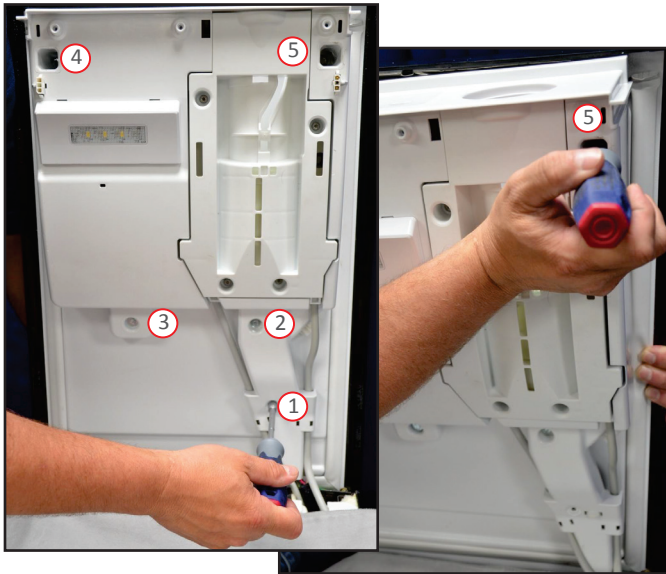

FIGURE 22
5. 5 hex head screws will need to be removed while supporting the top. Grasp the center of the top with left hand to support top. Screw # 5 needs to be the last to be removed. When the last screw is removed the control housing will separate from the top. See *Figure 22*.